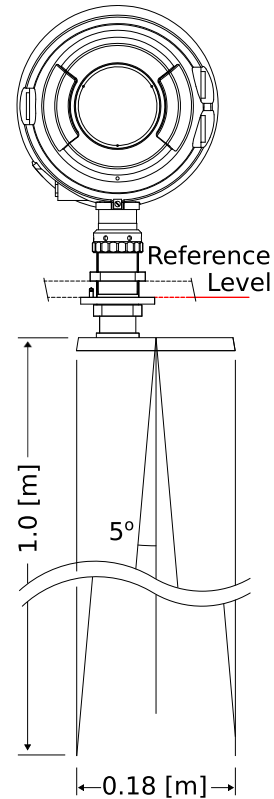

Figure 1.1: The 5° [deg] half top angle of the F08 antenna beam and the reference level for mounting height measurement.
- It is advised to choose a mounting position such that the WaveGuide radar beam is free of large reflecting obstacles (the beam of the F08 antenna can be approximated to a conical shape having a 5° [deg] half top angle as shown in Fig. 1.1). The minimum horizontal distance between a radar and any obstacle in the beam's path should be at least 10% of the vertical distance between the radar and the obstacle. This does not only include horizontal objects in the beam's path but also vertical structures.
- The reference level for the mounting height of the radars is shown in Fig. 1.1.